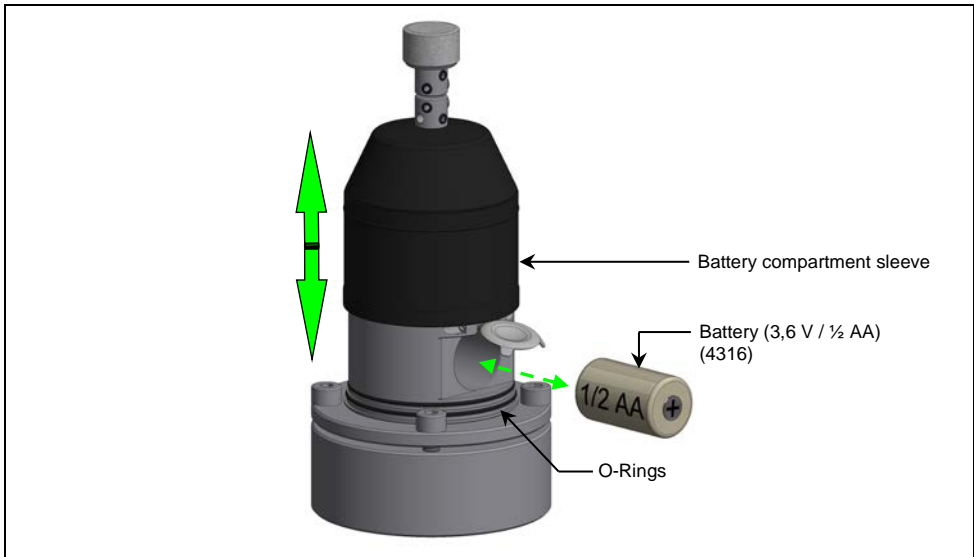

Fig. 16 Battery Replacement
1. Carefully slide the battery compartment sleeve upwards (Fig. 16).
2. Take the used battery out of the battery compartment and insert a new battery (Fig. 16).
3. Carefully slide the battery compartment sleeve down (Fig. 16).